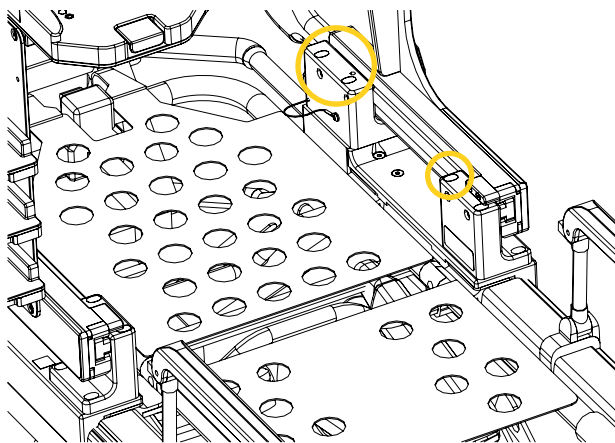

Figure 43: Tightening the XTPA-PPXT Rail System hardware
12. Tighten the three (3) accessible screws located on top of each XTPA-PPXT Rail (Figure 43) using a $\frac{3}{16}$ in. hex key. Currently inaccessible, the fourth screw will be tightened in a later step.